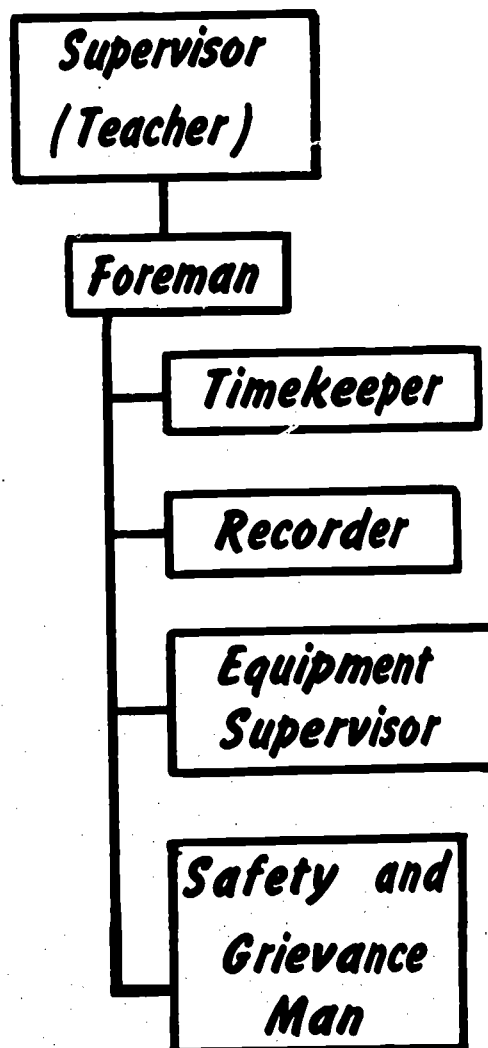

Fig. 3-1. Group Organization
Given the organization shown in Fig. 3-1, organize student groups for efficient classroom operation.
1. Read the following job responsibilities. Within your group select a student for each position. See Fig. 3-1.